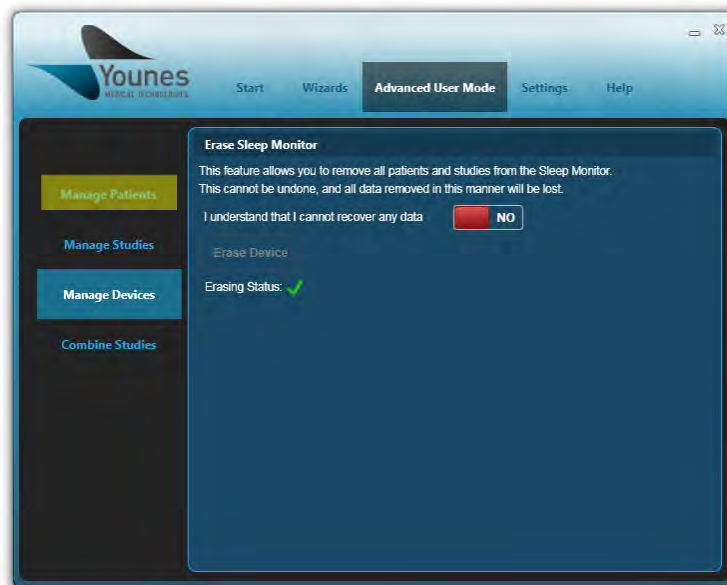

Figure 142 – Windows PC Prodigy Application Screen With “Manage Patients” Button Highlighted (Manage Devices)
4. Now that all patients have been deleted from the device, proceed to add a patient to the device by selecting the “Manage Patients” button shown highlighted in Figure 142.